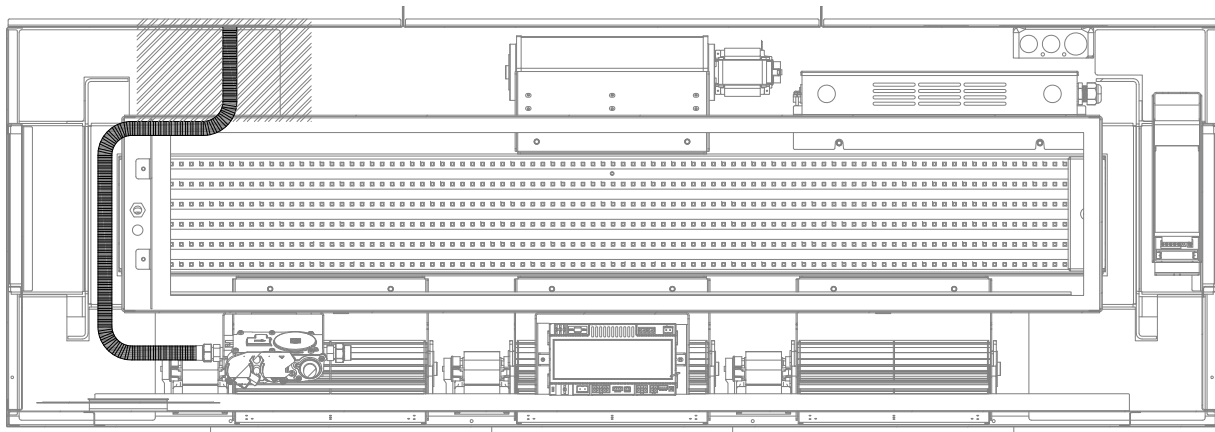

Figure 5.1 - Gas Line Path
- Figure 5.1 shows where to route the flexible gas line from the gas valve to the gas supply line. This path ensures the flexible gas line does not block the LED light kit. The shaded area in the back left corner is where we recommend the gas shut off valve and connection to the gas supply line. This will ensure you have access to the shut off valve when removing the control board. Run gas line into fireplace through gas line hole provided. See Figure 2.1, Appliance Dimensions for gas line access.